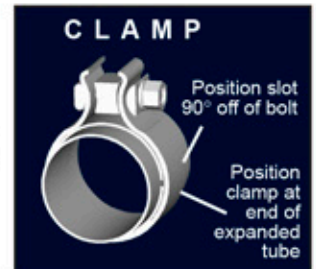

Figure 1
**NOTE:** Align all clamps so that the bolt is 90 degrees from the notch in the pipe. (See Figure 1)